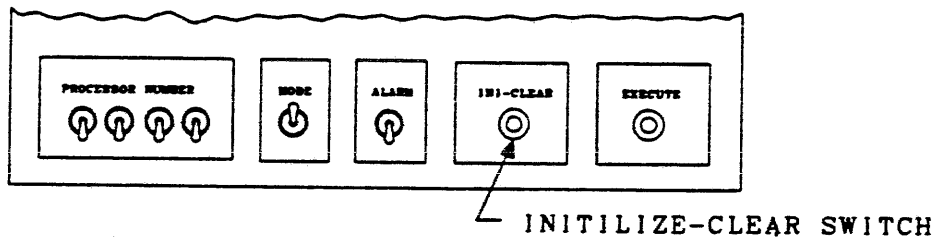

FIGURE 4-11. CONFIGURATION PANEL
- If the trouble indicator located on the Operator Control Panel illuminates, press the Ini-Clear pushbutton switch located on the Configuration Panel to clear. See Figures 4-11 and 4-12.